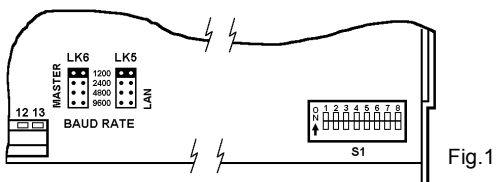

Fig.1
6. Select the communication speed for both the modem (PC LAN) and LAN by using the jumpers (LK 6 and LK 5 respectively, see Fig.1). The communication speeds are marked on the PCB. It is possible to set the LAN communication speed from a computer
3. Select the communication speed for both the PC LAN and LAN by using the jumpers (LK 6 and LK 5 respectively, see Fig.1). The communication speeds are marked on the PCB. It is possible to set the LAN communication speed from a computer running Satchnet Networking Software version 6.3 or later, if this is required jumper LK 5 should be removed.
4. Select the communication speed for both the PC and LAN by using the jumpers (LK 6 and LK 5 respectively, see Fig.1). The communication speeds are marked on the PCB. It is possible to set the LAN communication speed from a computer running Satchnet Networking Software version 6.3 or later, if this is required jumper LK 5 should be removed.